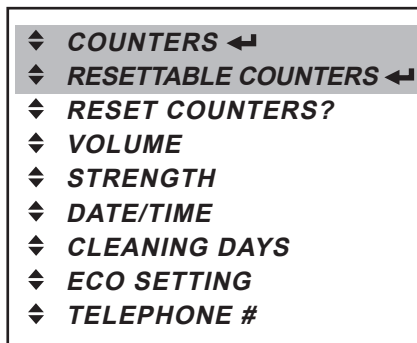

Fig. 33
- In the operator mode, press the enter button to access the «COUNTERS» menu or the «RESETTABLE COUNTERS» menu (fig. 33).